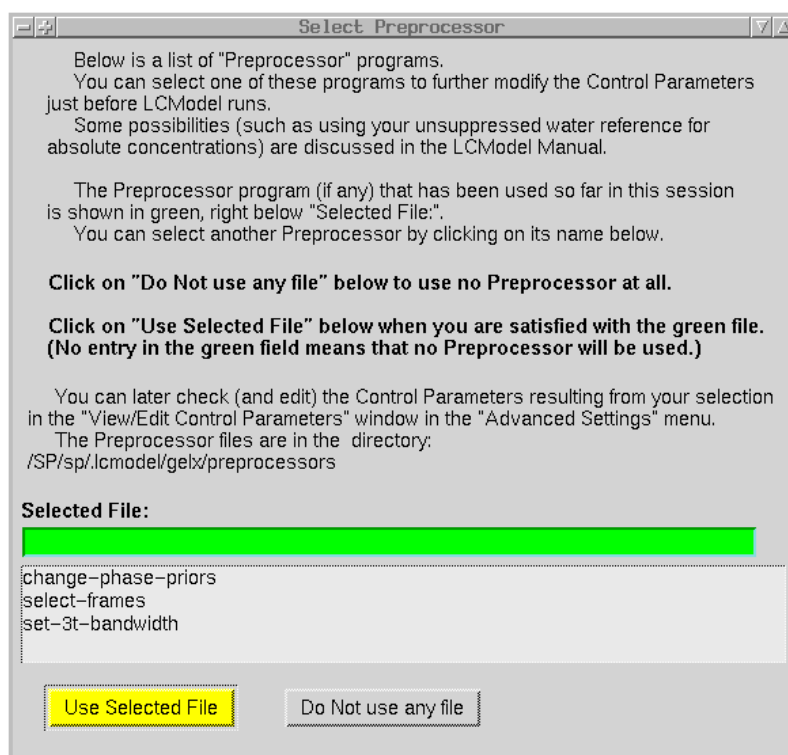

Figure 7.15: Here you can view and/or change the Preprocessor that will be used by LCMgui.
Only files in the directory `$HOME/.lcmodel/???/preprocessors/` will be available as Preprocessors in Figure 7.15. Here, `???` = **bruker**, **ge5**, **gelx**, **marconi**, **philips**, **siemens**, **toshiba**, **varian**, or **other**, depending on which type of data you selected in Fig 6.3.
- Click on “Change Preprocessor” to produce the window in Fig 7.15. (If there is no Preprocessor script in the directory, then you will be told this and given the chance to continue.)
**change-phase-priors** : GE automated Probe spectra usually need only very small phase corrections, and this prior information is used by default. However, this can cause huge phasing errors, if you have non-standard data requiring large phase corrections. If analyses of non-standard data show poor phasing, then you should first edit the file `$HOME/.lcmmodel/???/preprocessors/change-phase-priors` as explained in the file (where `??? = ge5 or gelx`). Then select this Preprocessor in Fig 7.15.
**set-3t-bandwidth** : LCMgui assumes that the bandwidth of 3T data is 5000Hz. If this is not the case with your 3T data, then edit the file `$HOME/.lcmmodel/gelx/preprocessors/set-3t-bandwidth` as instructed in the comments there. Then select this Preprocessor in Fig 7.15.